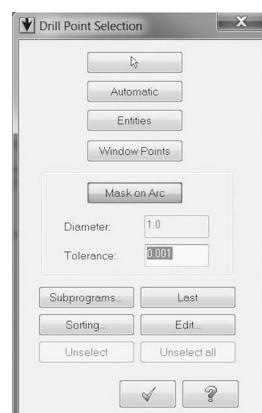

Figure 5-50 Drill Point Selection Dialog
- From the 2D Toolpaths toolbar, choose the Drill Toolpath... icon. The Drill Point Selection dialog will display (Figure 5-50).